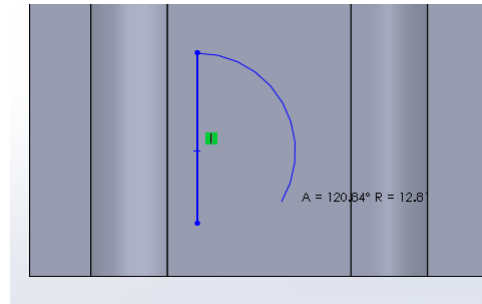

Fig25
- If the pointer leaves the starting point approximately perpendicular to the previous segment the result will be an arc which is connected to the previous segment perpendicularly (Fig25);